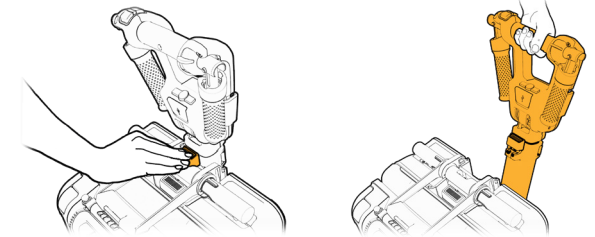

Figure 6
4. Press the rod button (1) and tilt it away from the main ATTO body (2) (see Figure 6).